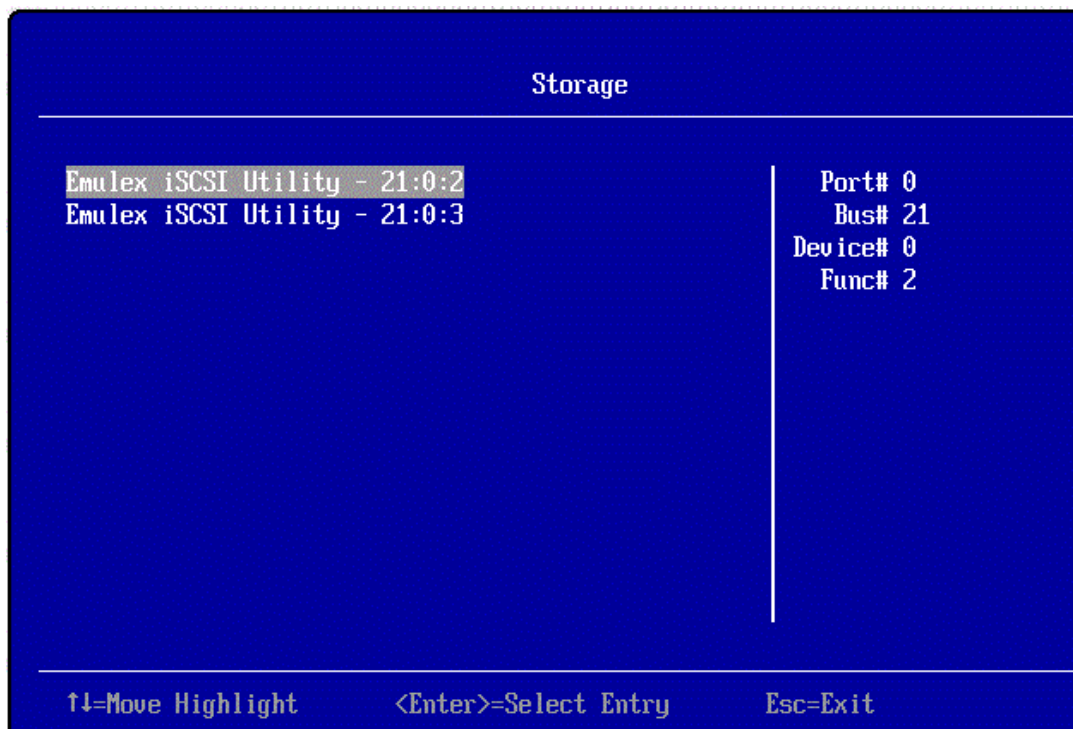
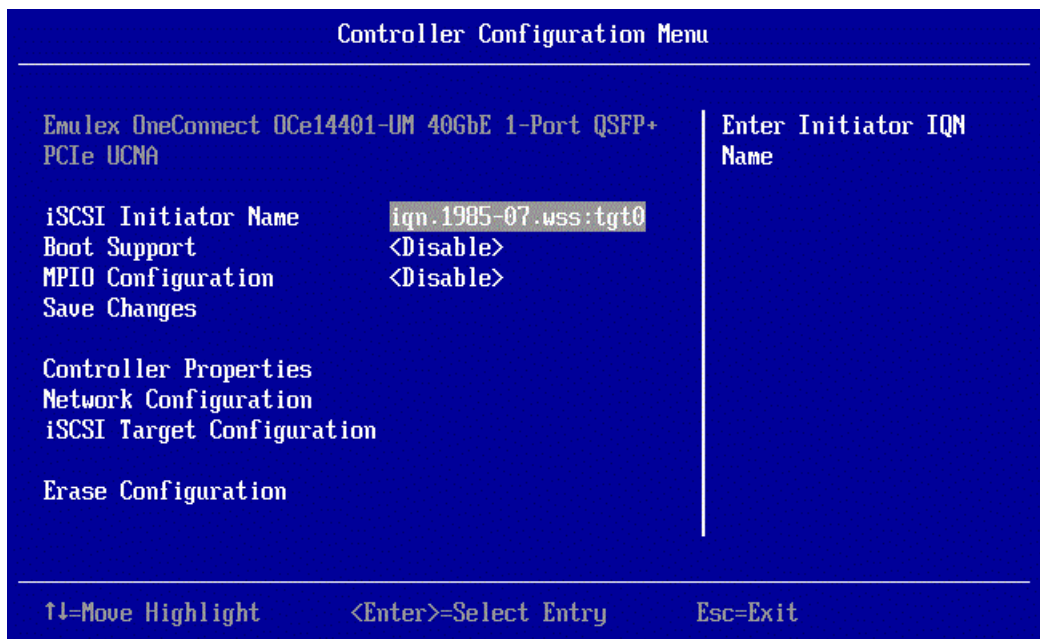

Figure 11-1 Storage Screen
Figure 11-2 Controller Configuration Menu Screen
1. From the Storage screen (Figure 11-1), select the **Emulex iSCSI Utility** for a particular function and press **<Enter>**. The Controller Configuration Menu is displayed.
1. From the Storage screen (Figure 11-1), select the **Emulex iSCSI Utility** for a particular function and press **<Enter>**. The Controller Configuration Menu is displayed (Figure 11-2).
1. From the Controller Configuration Menu screen (Figure 11-2), select **Network Configuration** and press <Enter>. The Network Configuration screen is displayed.